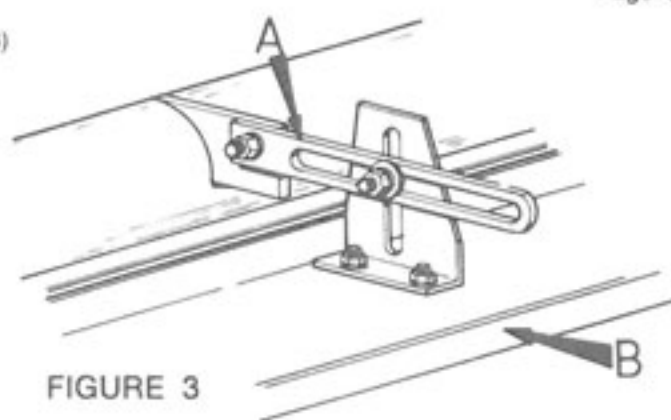
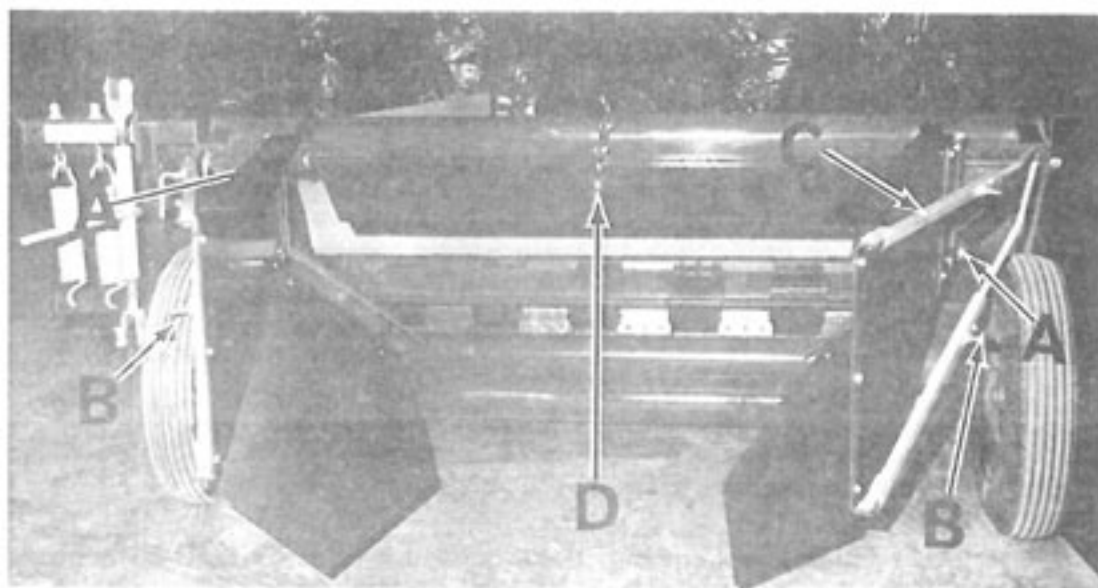

FIGURE 3
FIGURE 7
**STEP No. 1** — Mount the PTO Bearing Bracket Assembly (I) as illustrated onto the Pole using the 5/8" 11 x 7 Bolts. Secure with two nuts and adjust so bracket can pivot on pole.
**STEP No. 3** — Remove the Bolt (K) from the rear Yoke. Slide the Power Shaft onto the Splined Shaft (L) of the Gear Box. Replace the Bolt. Tighten with Lock Washer and Nut.
**STEP No. 4** — Slide the PTO Shaft (N) onto the Splined end of the Power Shaft. NOTE: THE PTO SHAFT YOKE WILL ONLY FIT ON THE SPLINE IN ONE POSITION. THE BLANK SPLINE IN THE PTO YOKE MUST BE IN POSITION SO IT WILL FIT OVER THE WELDED TIMING LUG (M) BETWEEN THE SPLINES OF THE POWER SHAFT. Secure with 1/2-20 x 1-1/4" HHCS, and Flat Washer. "TIGHTEN SECURELY", make sure that the P.T.O. Bearing makes contact with the shoulder at rear (O). Now thread wire through the head of this bolt and fasten to the yoke of the PTO.
**REAR DEFLECTOR ASSEMBLY** (See Figure 3)
**STEP No. 1**—Remove the Rear Deflector Adjusting Arm (A) from the shipping position. Bolt into position and tighten with lock washers and nuts. Raise the Rear Deflector (B) and line it up with the slot in the Rear Deflector Adjusting Arm. Fasten with bolt, flat washer, and nut.
(See Figure 7)
(See Section 1, Page 3, Figure 3 and Page 5, Figure 7)